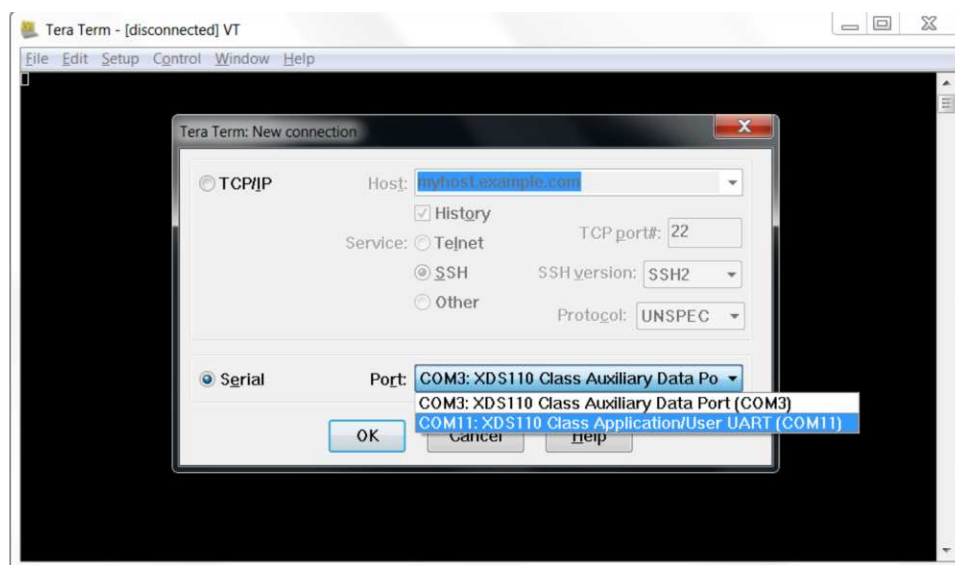

Figure 2-4. Select Serial Port
3. Select the Serial Port, then COM11: XDS110 Class Application/User UART (COM11), as shown in Figure 2-4. Click OK to continue.